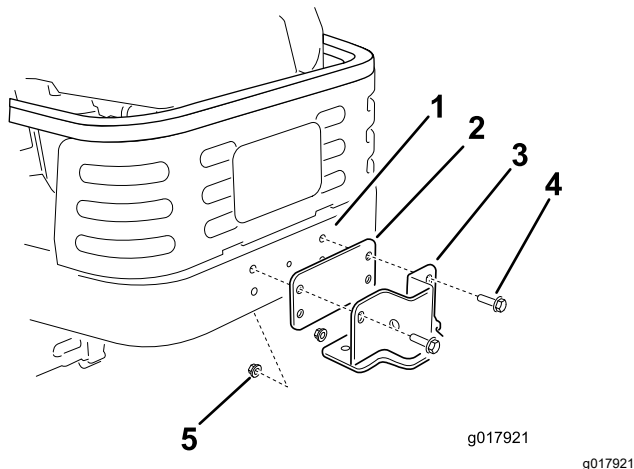

Figure 4
2. Install the support spacer plate and the support bracket to the machine frame as shown in Figure 4. Secure the plate and bracket to the